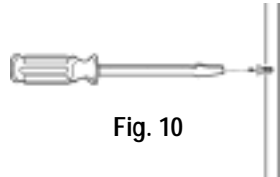

Fig. 10
- 3) Install the long mounting screws into the wall, leaving about 1/8-inch (3 mm) gap between the screw heads and the wall—*see Fig. 10.*